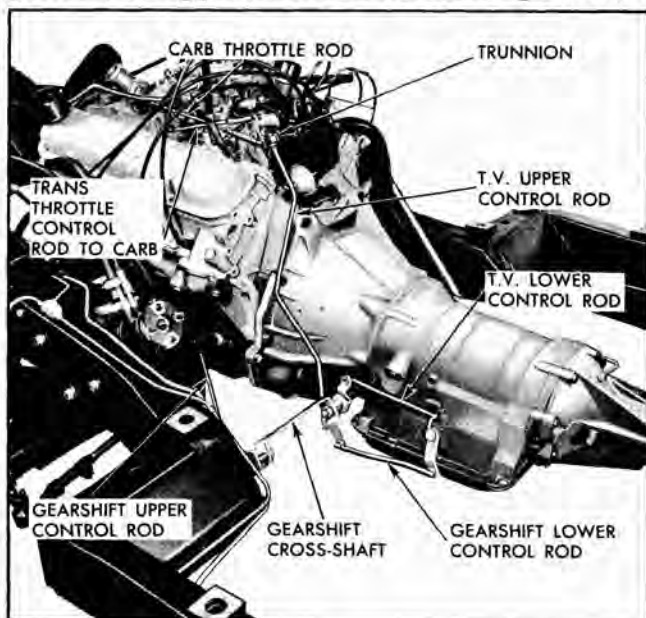

Fig. 40 Throttle Control Linkage
5. Push throttle control rod to transmission (T.V. upper rod) downward until the outer throttle lever is felt to touch end of travel (Fig. 40).